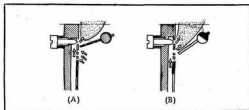

Fig. EF-23
When the opening of Throttle Valve ④ is small as shown in Fig. EF-23(A) (Idling). The air will be sucked from these holes and make thin the density of the fuel, promoting the vaporization of the fuel.
When the opening of Throttle Valve becomes bigger as shown in Fig. EF-23(B) (Slow-Middle speed running), then the mixture will jetted out from By-pass holes as well as Pilot Outlet.
That is, at first, the negative pressure operates only on Pilot Outlet (7) and after Throttle Valve opens more widely than as shown in Fig. EF-23(B), the negative pressure will operate also on the vicinity of By-pass (9) and the mixture will be jetted from By-pass holes, too.